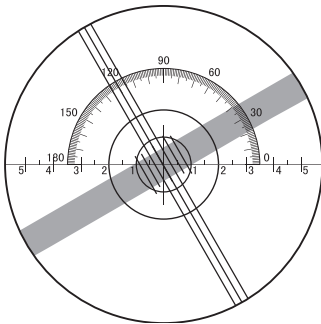
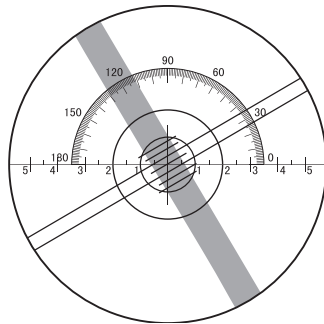

Fig.8.5.1 Image at  $+1\text{m}^{-1}$
Fig.8.5.2 Image at  $-2.5\text{m}^{-1}$
Step 4: Astigmatism axis angle is directly shown on the astigmatism axis measuring handwheel, which is  $30^\circ$ , as is shown in Fig.8.5.1 and Fig.8.5.2.